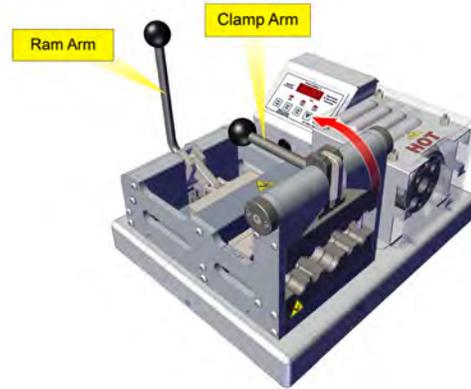

Fig. 3. Clamp Open
1. Retract upper tube clamp by rotating the Clamp Arm to the fully open position by moving the Clamp Arm in the direction shown. See Fig. 3.